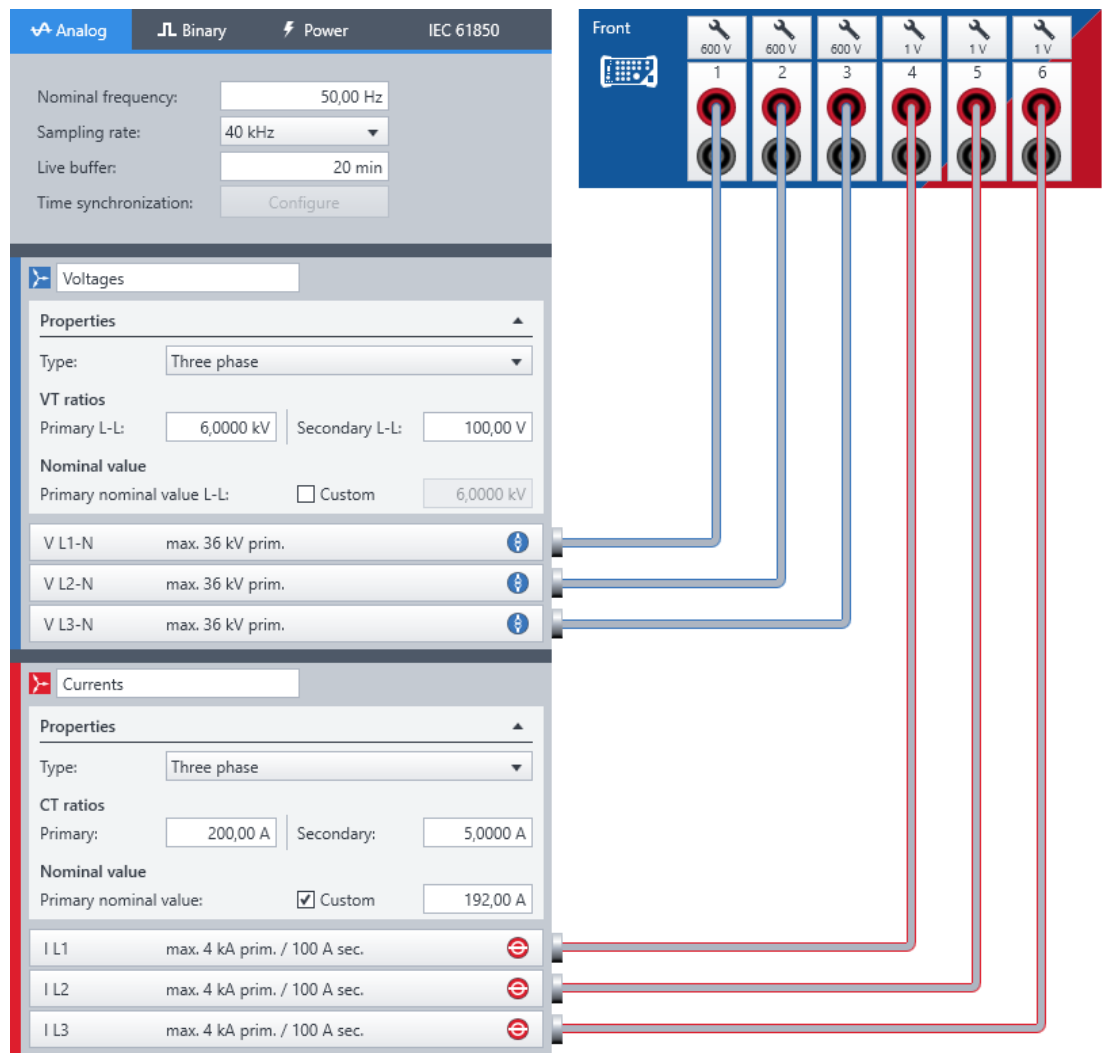

Figure 4: Test set configuration and analog measurement settings.
- b. Connection of analog measurement channels, as exemplarily shown in Figure 4:
- d. For the correct conversion of primary and secondary values, the ratios of VTs / CTs must be entered into the respective field, see Figure 4.